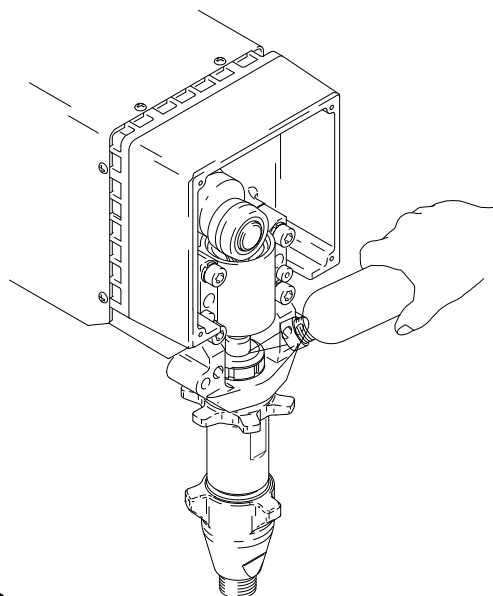

Fig. 2
1. Fill packing nut full with Graco Throat Seal Liquid (TSL), supplied. Fig. 2.